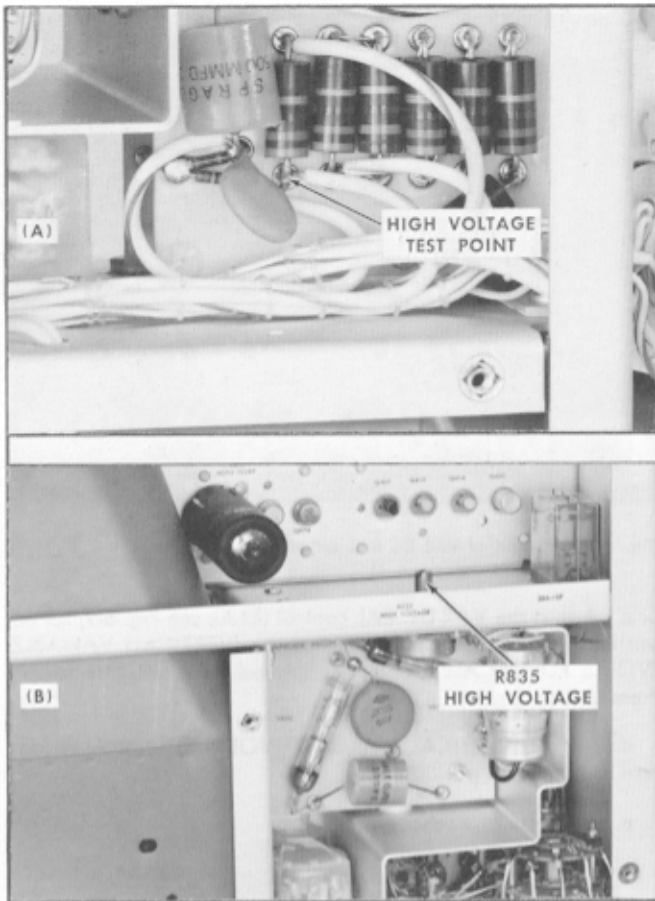

Fig. 6-5. Location of (A) high-voltage test point, (B) HIGH VOLTAGE adjustment.
- b. Connect the DC voltmeter between the CRT cathode (see Fig. 6-5) and ground.
- g. Adjust the HIGH VOLTAGE control (R835; see Fig. 6-5) to obtain a meter reading of  $-5300$  V.